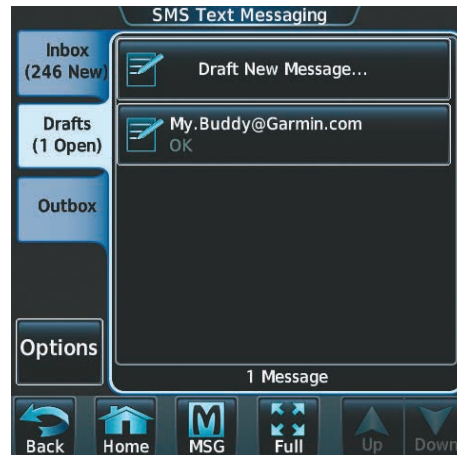

Figure 8-80 SMS Text Drafts
- 2) Touch the **Draft** Tab. A list of draft messages is displayed as in Figure 8-80, provided messages have been previously saved.